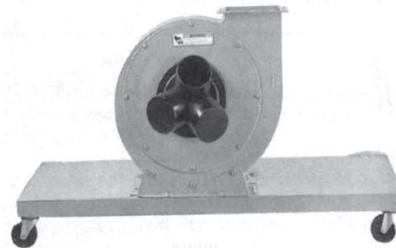

Fig. 2
2. Place base with casters on the ground and attach motor/fan assembly to base by hex bolts and washer (6) (Fig. 2) Attach hose adapter to fan housing.